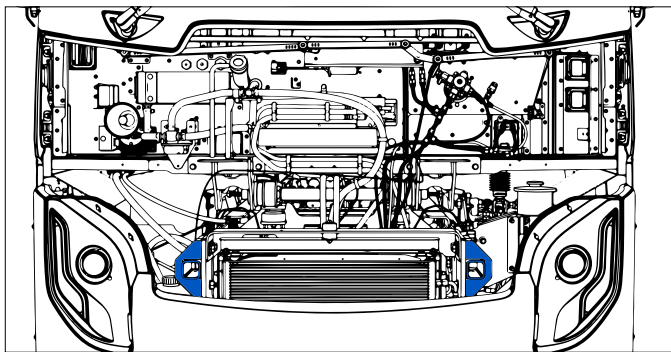

Figure 27 - Cross members
1. Open the hood and, to secure it in the open position, push both arms of the safety mechanism (**Figure 27**).